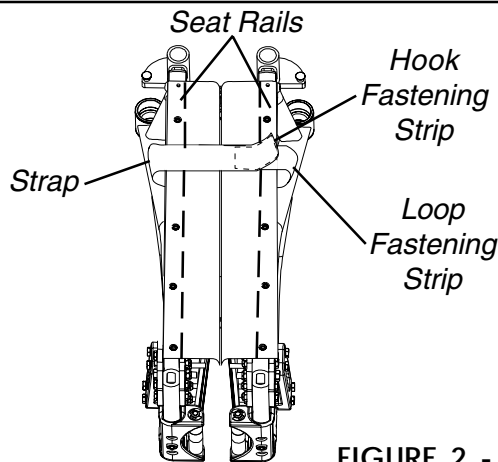

FIGURE 2 - USING/STORING THE STRAP
USING/STORING THE STRAP (FIGURE 2)
4. Wrap the strap around the seat rails of the wheelchair as shown in FIGURE 2.
2. Secure the loop fastening strip of the strap to the fastening strips on the seat upholstery as shown in FIGURE 2.